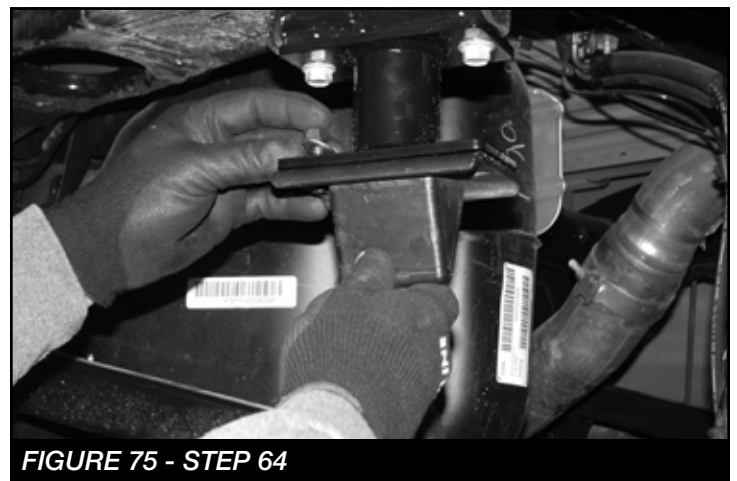

FIGURE 75 - STEP 64
64. Locate the FT44268BK rear bump stop spacer and supplied 7/16"-14x 1-1/4" bolts, nuts, and washers. Install the FT44268BK spacer with the factory bolts that were removed during disassembly. Then, install the factory bump stop onto the spacer bracket with the supplied 7/16" hardware. Torque to 58 ft-lbs. **SEE FIGURE 75**